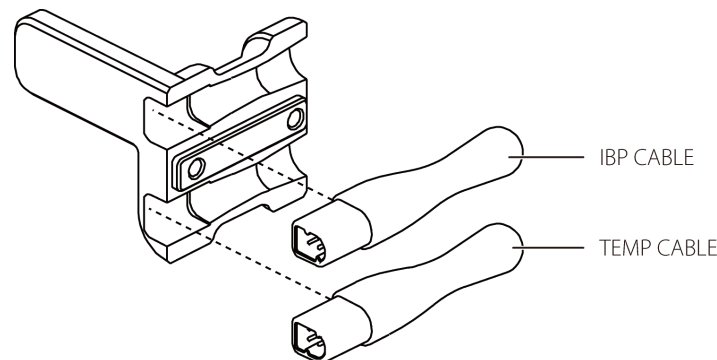

FIGURE 13-5 Camino Mounting Bracket Cable Insertion
2. Insert the two cables into the bracket base (as shown in FIGURE 13-5).